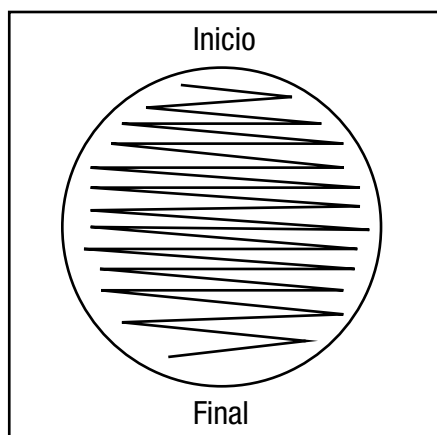

Figure 1: Streaking pattern on the 3M Petrifilm SALX Plate
3. Open the 3M Petrifilm SALX Plate and streak onto the gel (figure E). Perform a single streak to obtain isolated colonies (Figure 1).